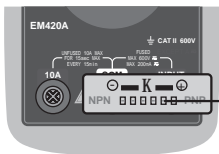

Figure 2
2. Refer to the Figure 2 , connect the adapter to the "COM" jack and the "INPUT" jack. Don't reverse the connection.